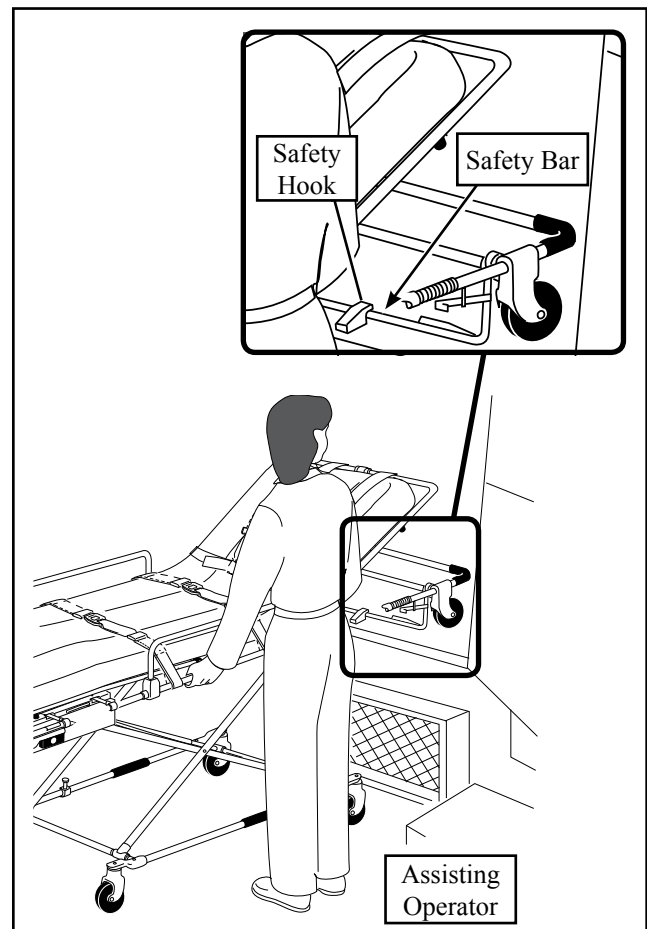

Figure 23 - Secure the Cot Safety Bar On the Safety Hook
1. **Both Operators:** Roll the cot forward until both loading wheels are on the patient compartment floor and the safety bar passes the safety hook (Figure 23).